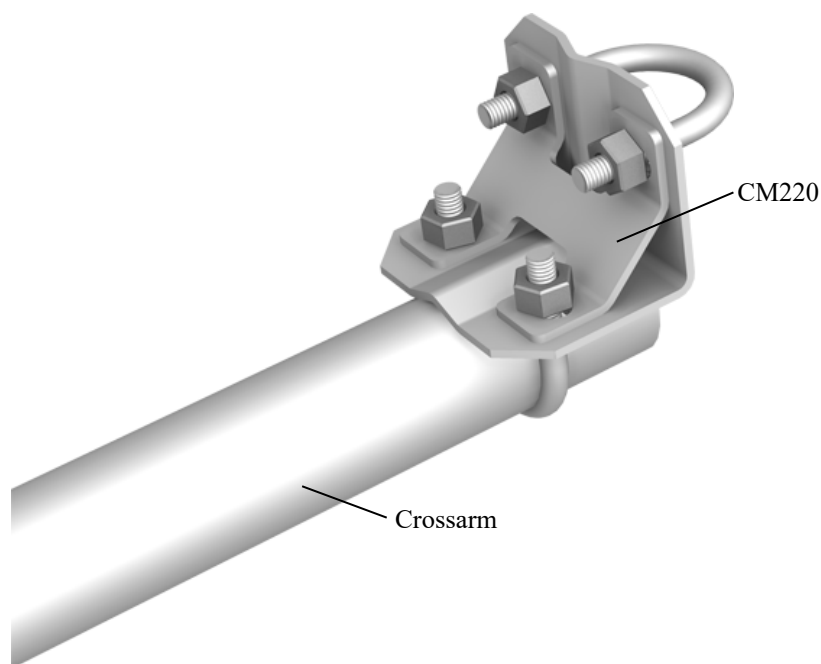

FIGURE 7-1. *CM220 Right Angle Mounting Kit mounted to a crossarm*
- CM220 Right-Angle Mounting Kit (FIGURE 7-1), or